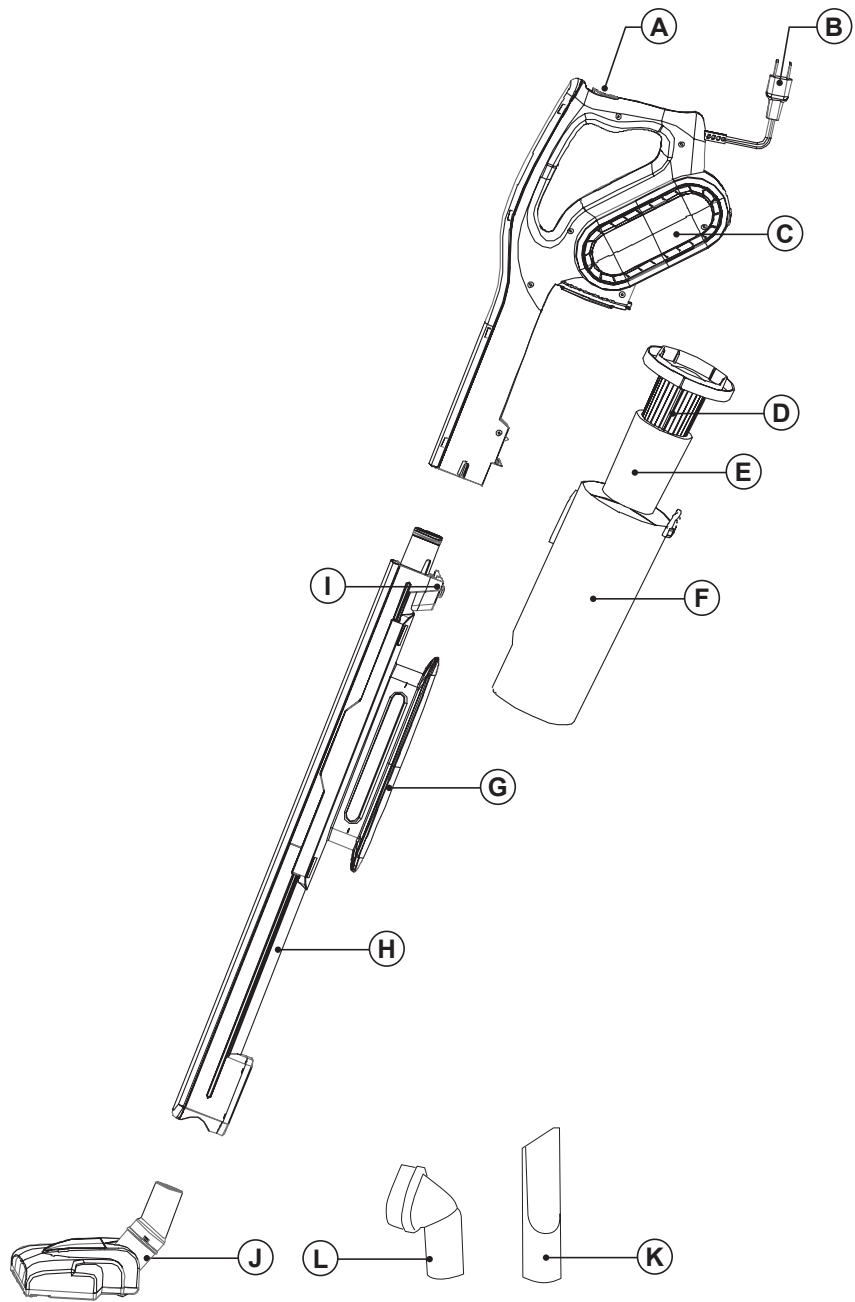

Fig.1
- To disconnect the hose unit from the vacuum cleaner, press the button to disconnect the tube from the main body where is situated in the rear side. (Fig.1).